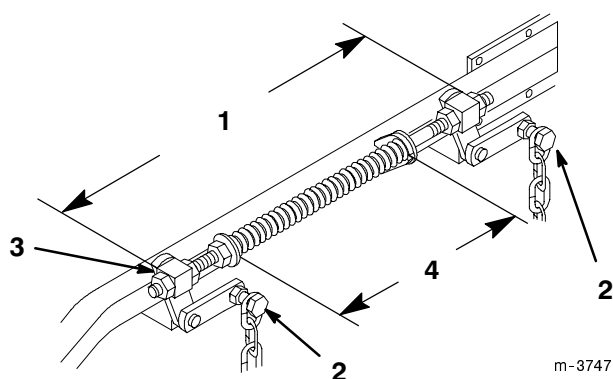

Figure 45
6. Loosen four (4) top chain bolts in slots. Check the length of the rod/swivel assemblies. Distance from outside of rear swivel to outside of front swivel should be 19-7/8" (505 mm) (Fig. 45). Make sure that all four swivels move freely in holes.
8. Lift up on four (4) top chain attachment bolts, in the slots, to take slack out of chains and tighten flange lock nuts. (Deck is still supported by two rear and one front blocks under mower.)
2. Springs are compressed so the distance between the two large washers should be 10-1/4" (260 mm) (Fig. 45).
3. Adjust by turning nut in front of each spring (Fig. 45). Clockwise will shorten spring; counter-clockwise will lengthen spring.